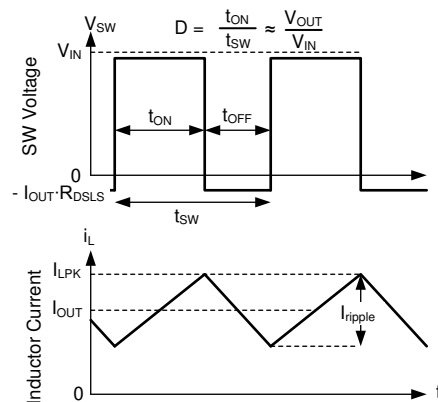

Figure 8-17. SW Voltage and Inductor Current Waveforms in Continuous Conduction Mode (CCM)
The following operating description of the LMR36503-Q1 refers to the Section 8.2 and to the waveforms in Figure 8-17. In CCM, the LMR36503-Q1 supplies a regulated output voltage by turning on the internal high-side (HS) and low-side (LS) switches with varying duty cycle (D). During the HS switch on-time, the SW pin voltage, V_{SW} , swings up to approximately V_{IN} , and the inductor current, i_L , increases with a linear slope. The HS switch is turned off by the control logic. During the HS switch off-time, t_{OFF} , the LS switch is turned on. Inductor current discharges through the LS switch, which forces the V_{SW} to swing below ground by the voltage drop across the LS switch. The converter loop adjusts the duty cycle to maintain a constant output voltage. D is defined by the on-time of the HS switch over the switching period: